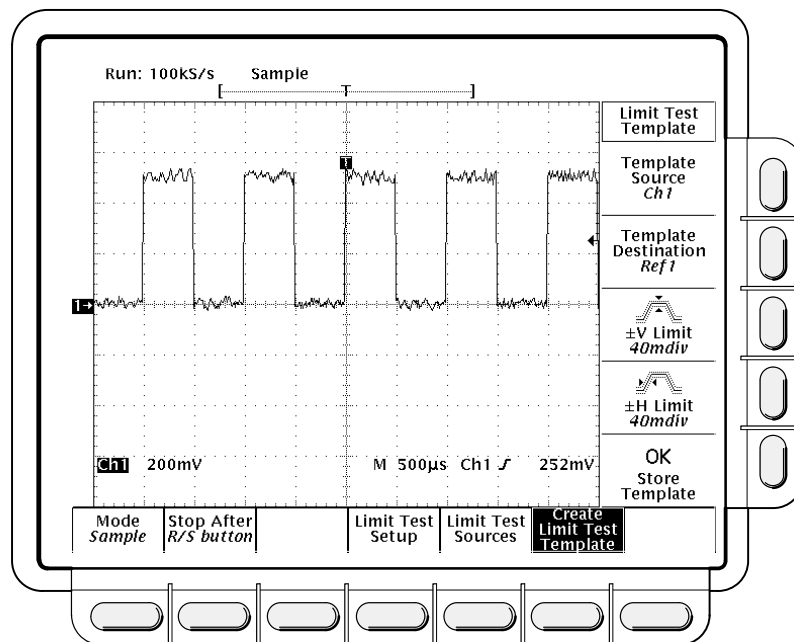

Figure 3-40: Acquire Menu — Create Limit Test Template
1. Press **Create Limit Test Template** (main) → **Template Source** (side) → **Ch1, Ch2, Math1, Math2, Math3, Ref1, Ref2, Ref3, or Ref4** (side). (See Figure 3-40).